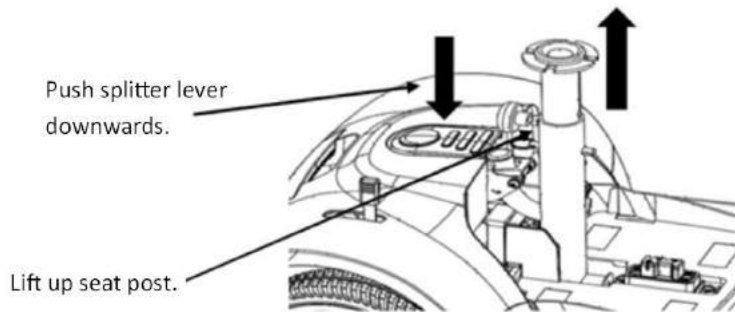
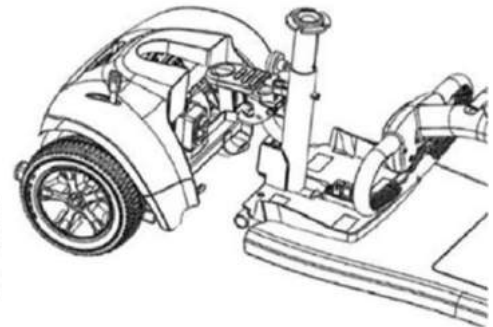

Fig 7.5.1
Fig 7.5.2
- Push down the splitter lever and at the same time grip the seat post and lift upwards lifting the front section off the rear section hooks (Fig 7.5.1), disconnecting the front section from the rear (Fig 7.5.2).